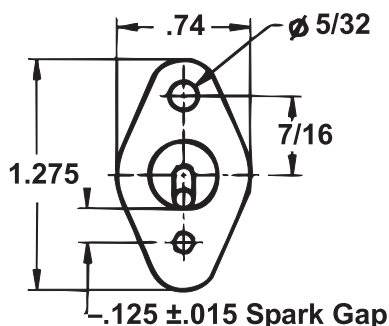

Figure 30. Front View of Ignitor Showing Spark Gap Measurement
- d. Spark gap (see Figure 30) must be maintained to 1/8 inch.